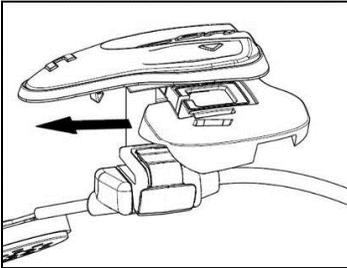

Fig. 14
- Insert the support specific for your helmet in the flex cable of the keypad (Fig. 14).